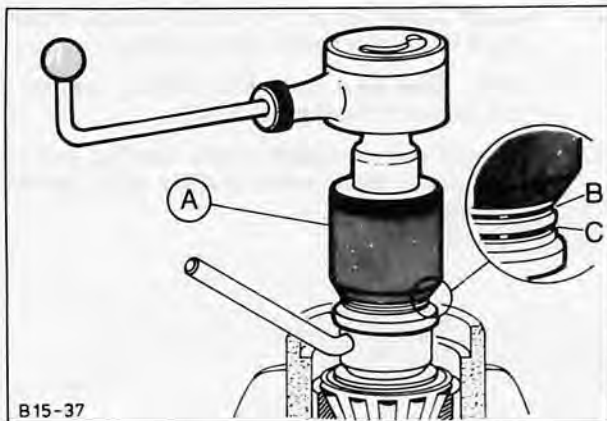

Fig. 33. Pre-load sleeve 15-023
16. Establish the torque needed to turn unit with pre-load gauge 15-041 and note value, Fig. 33.